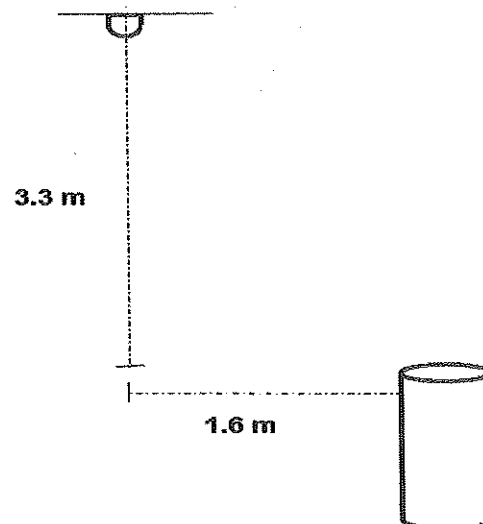

Figure QB1
- (c) An LED lamp with a luminous intensity of 2850 cd is located 3.3 m on the ceiling (measured from the work surface) as shown in **Figure QB1**. The table is situated 1.6 m away from the light source and the radius of the table is 0.3 m.